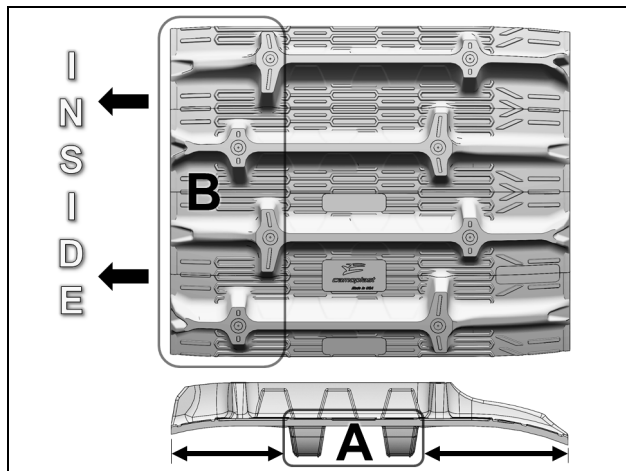

Figure 32
Front track: Inner driving lugs (A) are not centered on the track. Make sure the narrow side (B) is installed inside the Track system. Figure 32.